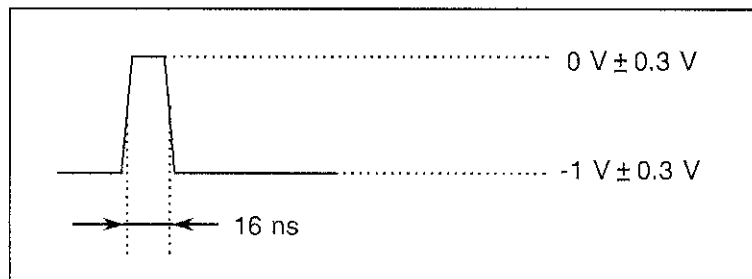

Figure 9-6 Waveform of the DIRECT ERROR Output Signal
- (5) If the waveform on the oscilloscope is a square wave which is similar to the one shown in Figure 9-6, the DIRECT ERROR output signal is evaluated as normal.